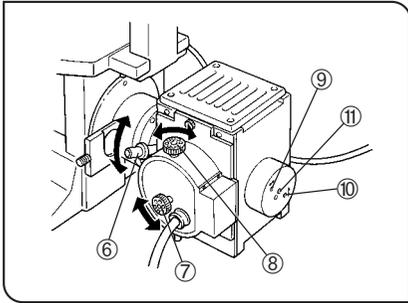

Fig. 4
5. Project the arc image on the white paper, then center and sharpen it by manipulating the collector focusing knob ⑥, burner left/right centering knob ⑦ and burner up/down centering knob ⑧ on the lamp housing. (Figs. 4 & 5)
★ **There may be causes in which the arc image projected on the white paper is a mirror-reflected image. If the arc image moves when the mirror left/right centering screw ⑨ or mirror up/down centering screw ⑩ is turned, it is a mirror-reflected image; bring it out of the field and center the arc image as described above. (Fig. 4)**
6. Manipulate the burner left/right centering knob ⑦ slightly to move the arc image to the right (or left). (Figs. 4 & 6 ㉔)
7. Using the Allen wrench provided with the illuminator, turn the mirror focusing screw ⑨, mirror left/right centering screw ⑨ and mirror up/down centering screw ⑩ to form the mirror-reflected arc image on the white paper. (Figs. 4 & 6 ㉕)
8. Adjust the mirror centering screws ⑨ and ⑩ to move the direct and mirror-reflected arc images in the symmetrical position between each other, and turn the mirror focusing screw ⑩ to adjust the size of the mirror-reflected image until it is identical to that of the direct image. (Figs. 4 & 6 ㉖)
9. Turn the burner left/right centering screw ⑦ to overlap the direct image with the mirror-reflected image. (Figs. 4 & 6 ㉗)
12. Look into the eyepiece and manipulate the collector focusing knob ⑥ to make the field as bright as regular as possible, then turn the knob clockwise to tighten. (Fig. 4)